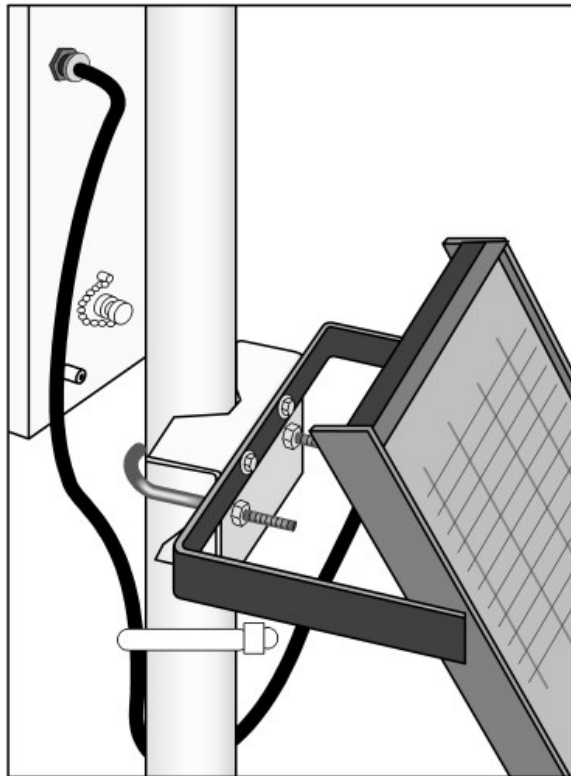

FIGURE 6-42. Solar panel mounting and cabling
1. Mount the solar panel to the pole using the mounting brackets (FIGURE 6-42 (p. 59)).